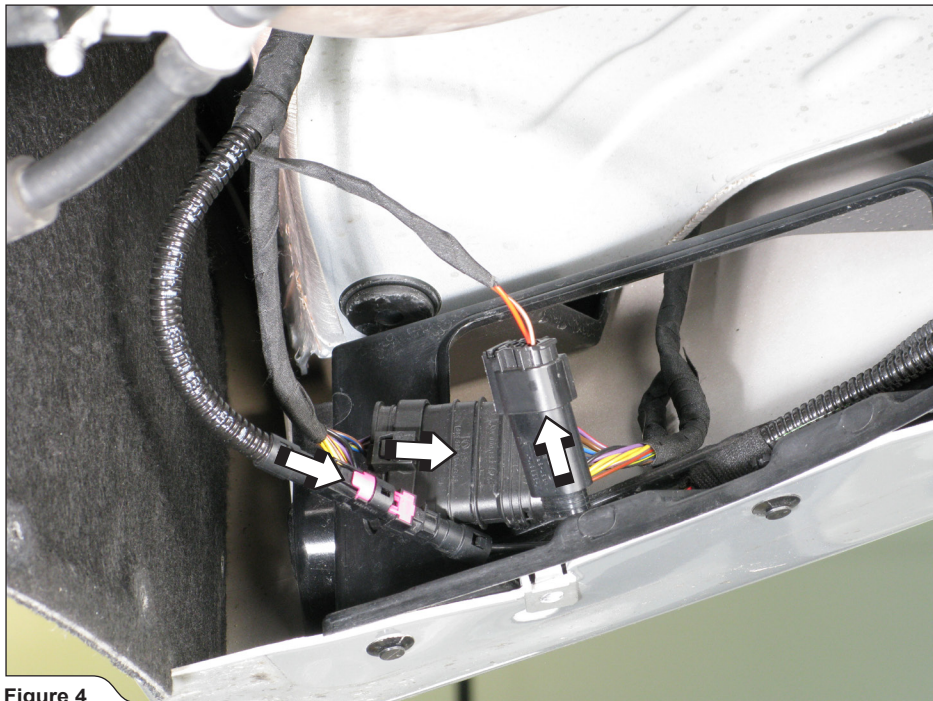

Figure 4
3. Disconnect marked electrical connectors on the right side of the bumper (Figure 4).